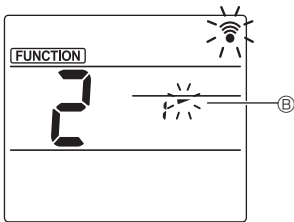

Fig. 3-3
- Setting the vane angle (Fig. 3-3)